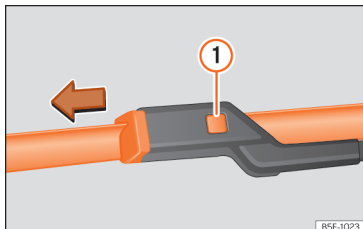

Fig. 84 Changing the windscreen wiper blades
- Press and hold release button »» Fig. 84 ❶ and pull gently on the wiper blade in the direction of the arrow.